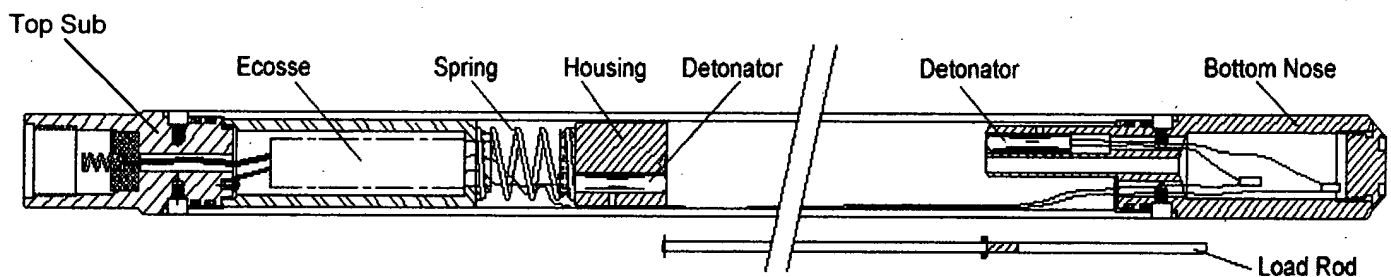

Fig. 2 Severing Tool as received in shipping package.
- 1.1 Titan Severing Tools (ST) are colliding tools, making use of EBW (Exploding Bridge Wire) Detonators, initiated by the ECOSSE fire set (Fig. 2). For reference, a wiring diagram is included (Fig. 1).
³ Severing Tool Mechanical Assembly (Fig. 2), with Detonators installed, is classified as UN 1.4S.